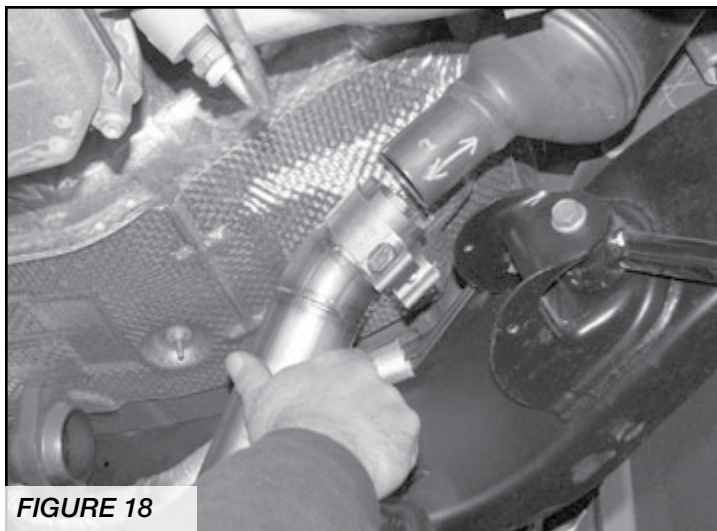

FIGURE 18
15. Locate the replacement Exhaust Tube, Clamp and Hardware. Install the slip tube section onto the cut pipe with the Clamp or have muffler shop build and install new pipe after suspension installation. **SEE FIGURE 18.**